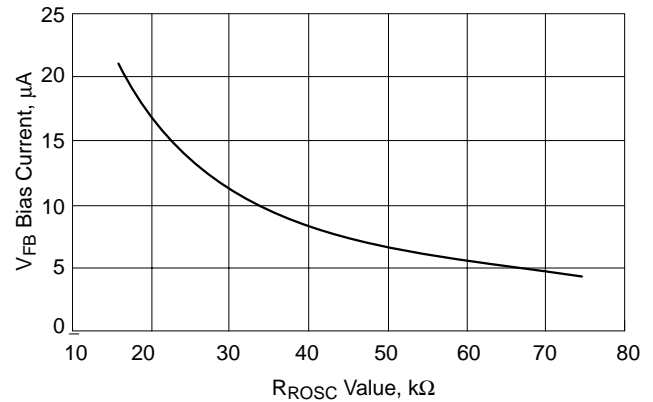

Figure 4. V_{FB} Bias Current vs. R_{ROSC} Value
2. The V_{FB} Bias Current changes with the value of R_{ROSC} per Figure 4.
To set the no-load positioning, a resistor (R_9) is placed between the output voltage and V_{FB} pin. The V_{FB} bias current will develop a voltage across the resistor to decrease the output voltage. The V_{FB} bias current is dependent on the value of R_{ROSC} , as shown in Figure 4.